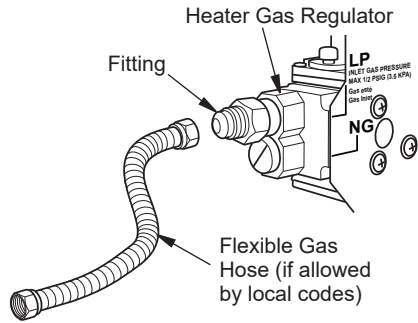

Figure 14 - Attaching Flexible Gas Hose to Heater Gas Regulator (may vary from illustration)
6. Apply pipe joint sealant lightly to fitting threads. Connect approved flexible gas hose to gas regulator of heater (see Figure 14, page 17). *Note: Never apply pipe sealant to flare fitting threads. Hold gas regulator with a wrench when connecting flexible gas hose.*
The installer must supply an external regulator. The external regulator will reduce incoming gas pressure. You must reduce incoming gas pressure to between 11" WC and 14" WC. If you do not reduce incoming gas pressure, heater regulator damage could occur. Install external regulator with the vent pointing down as shown in Figure 14. Pointing the vent down protects it from freezing rain or sleet.